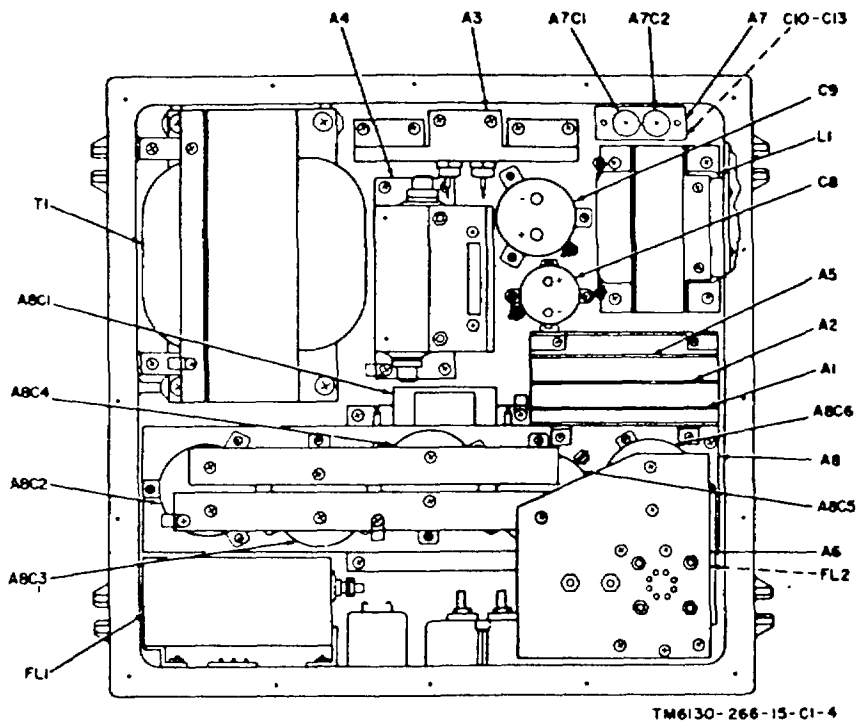

Figure 5-1. Power Supply PP-6224/U, top view, parts location.
(1) Disconnect the power supply from the power source.
(2) Disconnect the load connected to DC OUT receptacle J7 or J9, or DC OUTPUT receptacle J6. Disconnect the standby battery.
a. *General.* In the troubleshooting chart that follows, the procedures are outlined for localizing troubles to a part or an assembly. The parts locations are shown in figures 5-1 through 5-9. Depending on the nature of the operational symptoms, one or more of the localizing procedures will be necessary. When trouble has been localized to a particular assembly, use voltage and resistance measurements to isolate the trouble to a particular part.